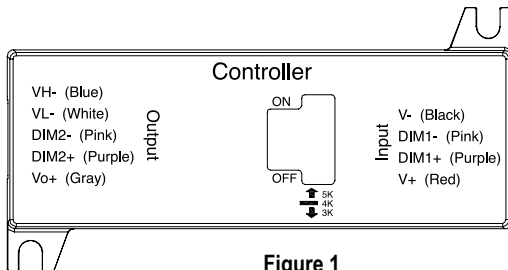

Figure 1
1. Turn the switch to ON to activate the photocell, disable the photocell of the CN-RTMST. (see Fig. 1)
2. Turn the switch to OFF to deactivate the photocell. (see Fig. 1)
3. Adjust the switch on the right to the desired CCT (3000K, 4000K or 5000K). (see Fig. 1)